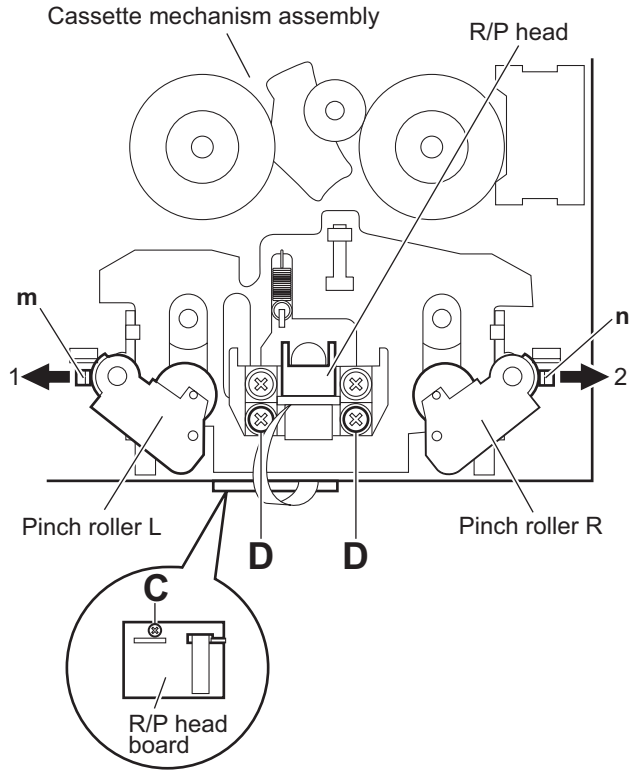

Fig.10
3.3.7 Removing the R/P head block (See Fig.10)